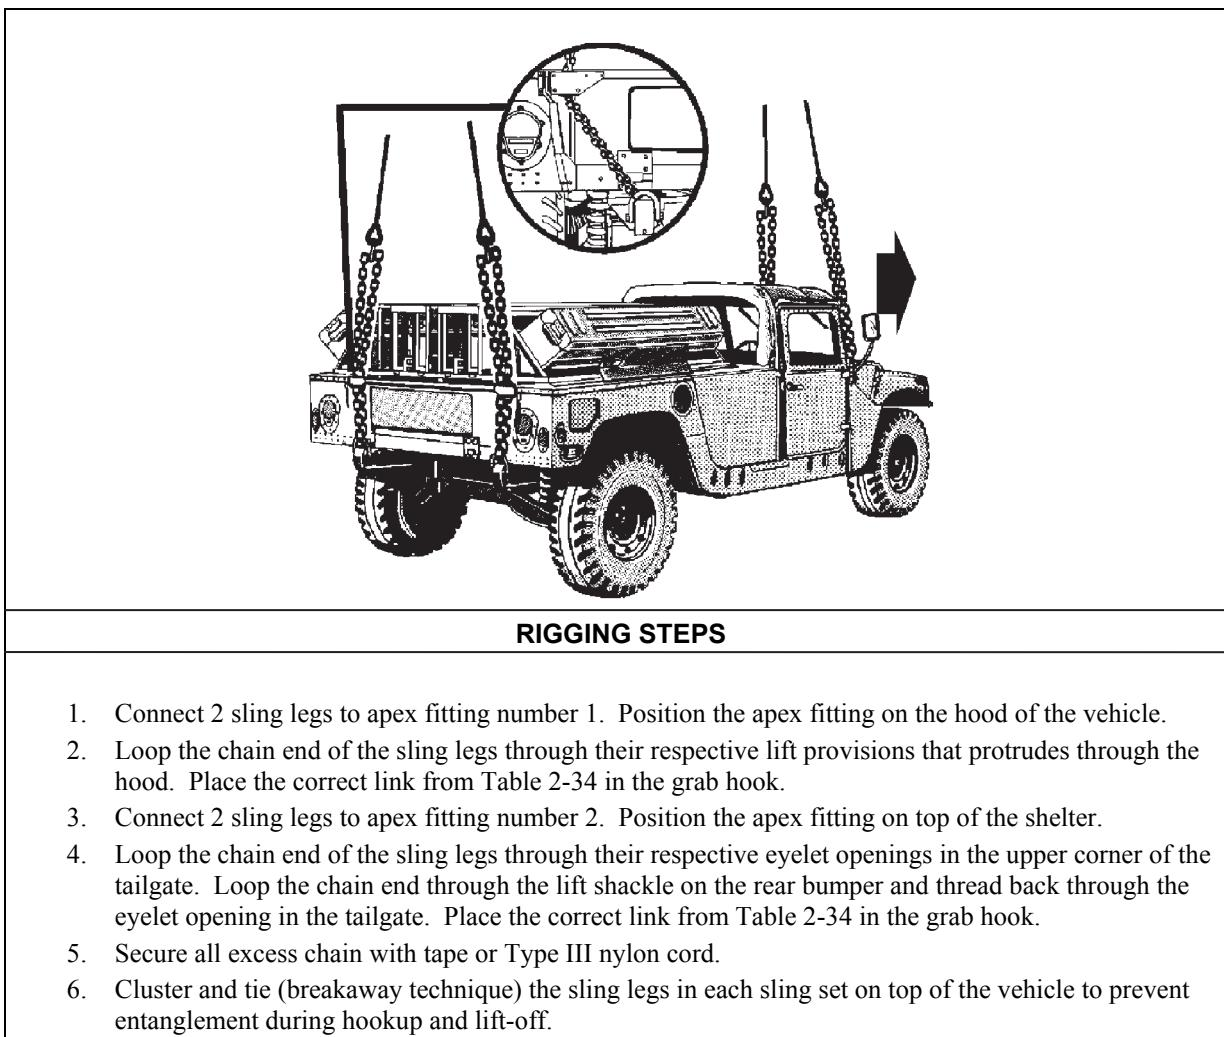

Figure 2-33. M998 with Man Portable Air Defense Systems
- **Rigging.** Rig the load according to the steps in Figure 2-33.